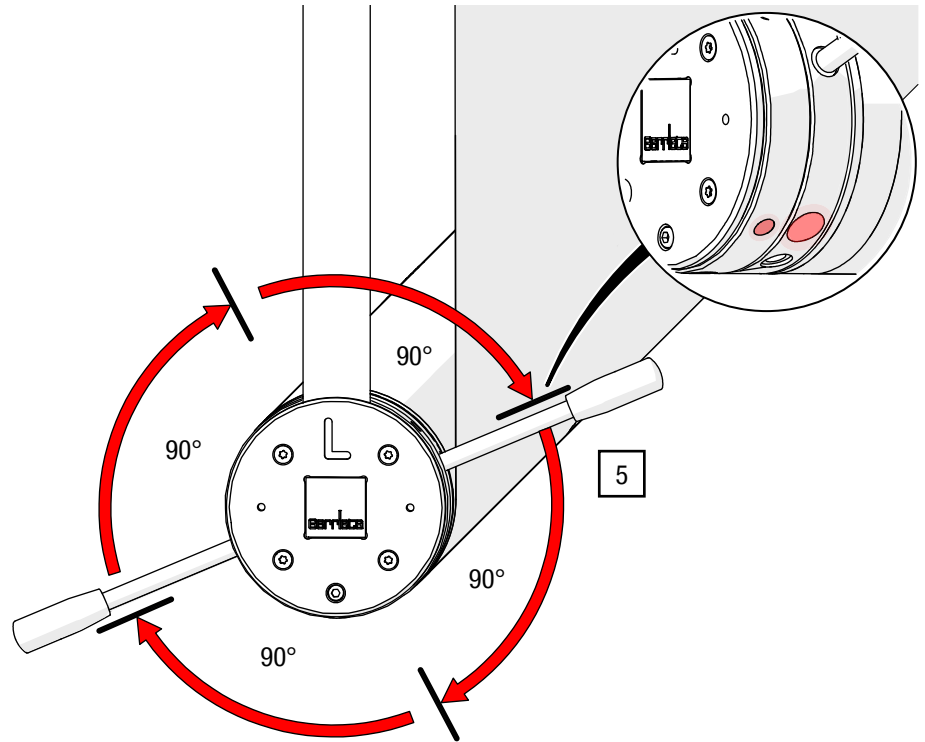

Fig. 32: Tensioning the coil spring with the tension lever
5. Use the tensioning levers to turn the tensioning ring in the winding direction until sufficient pre-tension has been achieved and pay attention to the positioning at an index point (see Fig. 32).